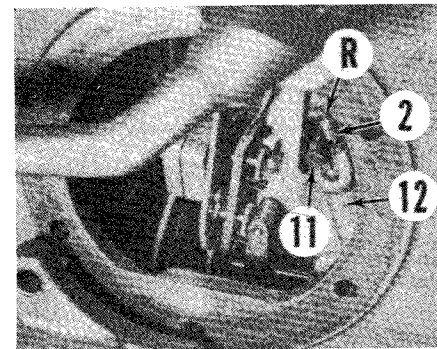

Fig. 184—View of response control plunger adjustment rod (R), plunger (2), set screw (11) and dashpot housing (12).
200. RESPONSE CONTROL. To adjust response control, loosen plunger set screw (11—Fig. 184), push rod (R) down, then retighten set screw to hold rod in place. Move the response control lever to "FAST" position, then reinstall response side cover (without outer cover) onto housing. Move response control lever to place it about 6.4 mm (1/4 inch) from "SLOW" position. Remove access plug from side cover. Insert a wrench through access opening and loosen set screw to allow plunger to release and contact response lever shaft. Retighten set screw. Install access plug and outer cover.